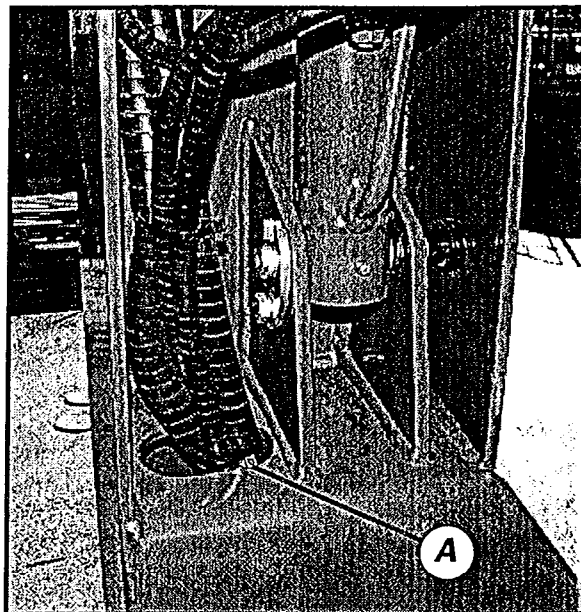

Figure 1
PROCEDURE: Read all instructions thoroughly and refer to figure 1 before starting.
3. Clip the Harness Protection Coil around the harness above entry point **A**. See figure 1. Ensure that the full length of Coil is wrapped around the harness external to the Second Post.